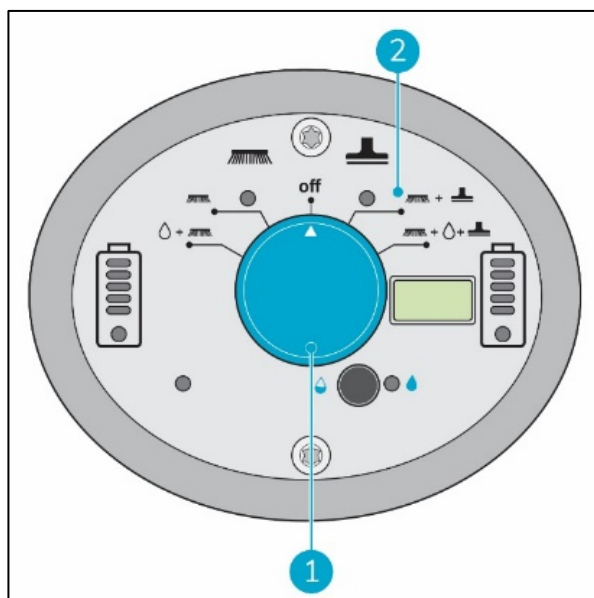

Figure 21
1. Use the i-mop XXL pro main switch (Figure 21, pos 1) and choose MODE 3 Brush + Dry vacuum (Figure 21, pos 2).